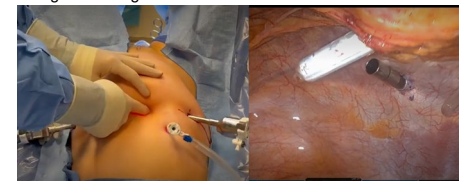

Figure 4 - Inserting the StitchKit® device through incision
- 4.3. Alternatively, StitchKit may be placed through one of the 8 mm trocar sites under direct endoscopic visualization by removing one of the 8mm trocars and pushing StitchKit into the surgical field through that incision then replacing the trocar (Figure 4)– all under direct endoscopic visualization. When inserted this way, the resultant location of StitchKit should be noted, and the surgeon should retrieve StitchKit immediately after docking the robot and sitting at the surgeon console.
- 5.3. Gently open the StitchKit® using the side tabs. (Figure 4)